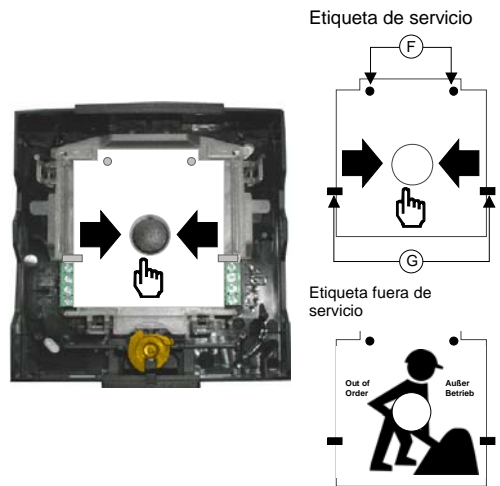

Fig. 4
Position the plastic label (Fig. 4) on the retaining pins (F) and push it under the guides (G).
The other side of the label can be used for identifying call points that are not in operation (Fig. 4).